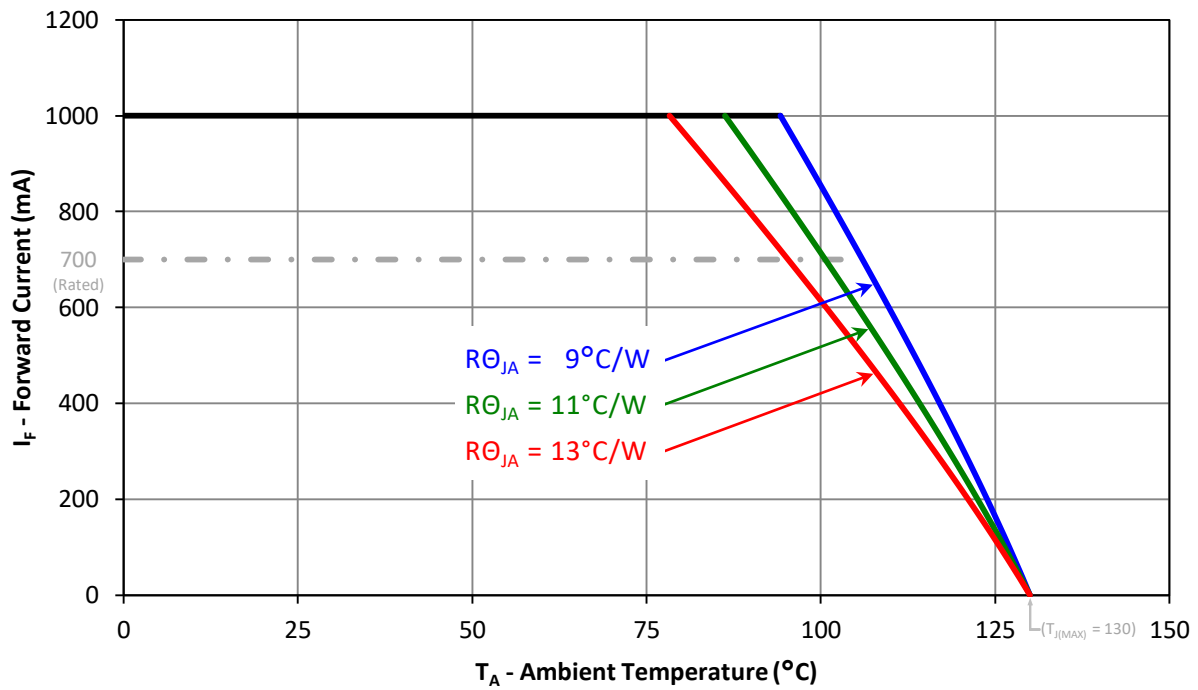

Figure 11: Maximum forward current vs. ambient temperature based on $T_{j(\text{MAX})} = 130^\circ\text{C}$.
- Maximum DC forward current is determined by the overall thermal resistance and ambient temperature. Follow the curves in Figure 11 for current derating.
Notes for Figure 11: